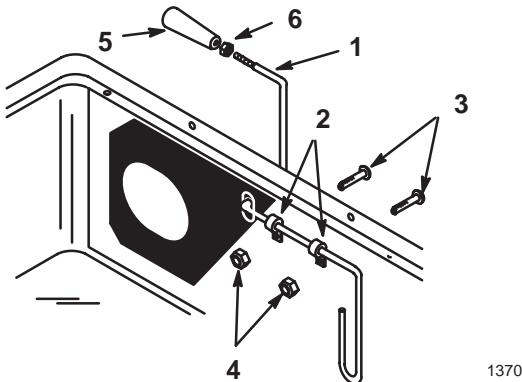

Figure 7
1. Slide threaded end of indicator rod through two clips, then rubber seal and slot in cover (Fig. 7).
2. Secure clips to the cover with (1 $\frac{1}{4}$ " x 5 $\frac{1}{8}$ ") bolts and nuts (Fig. 7).
3. Thread jam nut and handle completely onto thread end of indicator rod. Rotate handle so you can read decal from operators position then tighten jam nut to secure (Fig. 7).